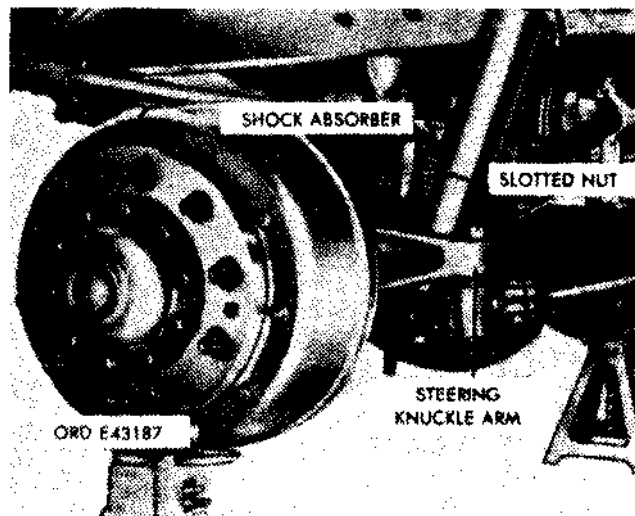

Figure 2-204. Front axle assembly with **wheel** and tire assembly removed.
*a. Removal (fig. 2-204).*
*b. Installation (fig. 2-204).*
(1) Insert the tie rod end studs in the steering knuckle arm holes.
(2) Install two slotted nuts, one on each stud, and torque nuts 140 to 180 lb-ft for all models with exception of M39, M39A2 chassis, M41 and M41A2 cargo trucks.
(3) Install cotter pins to the slotted end nuts. Lower the wheels, and adjust the toe-in (para 2-214e).
(4) Lubricate the rod in accordance with L0 9-2320-211-12.